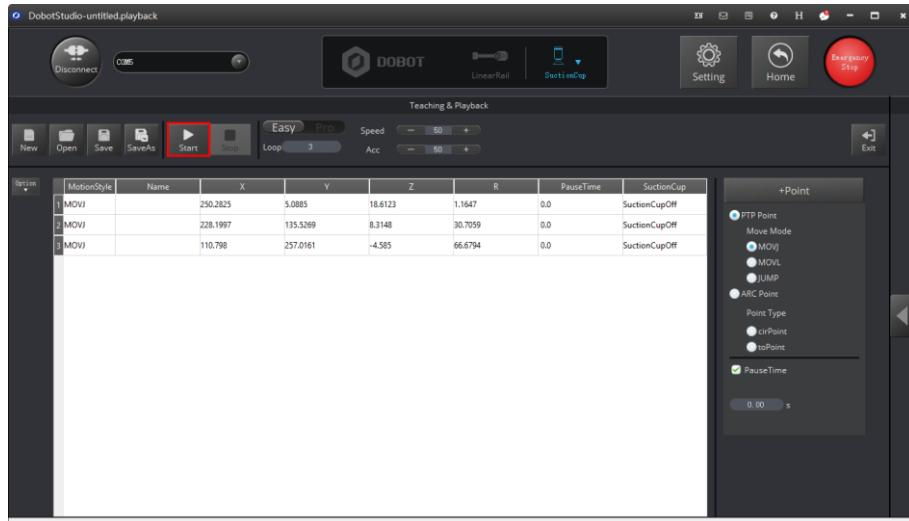

Figure 2.24 Click Start
6. Click **Start** to perform the motions taught above, as shown in Figure 2.24.